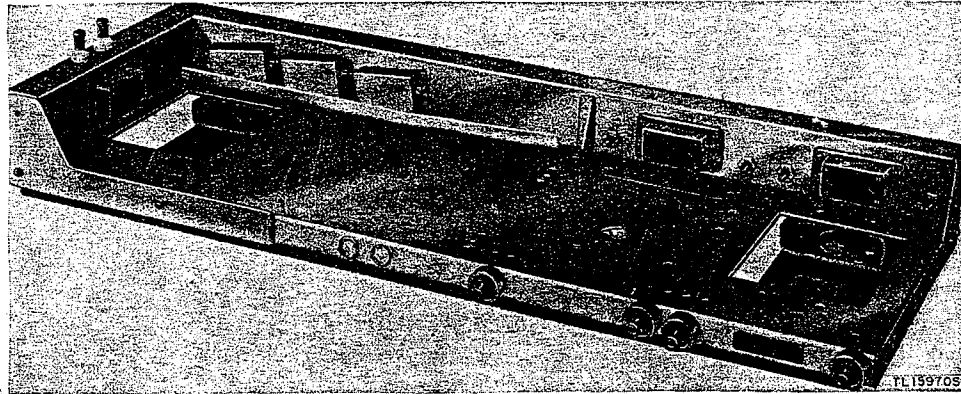
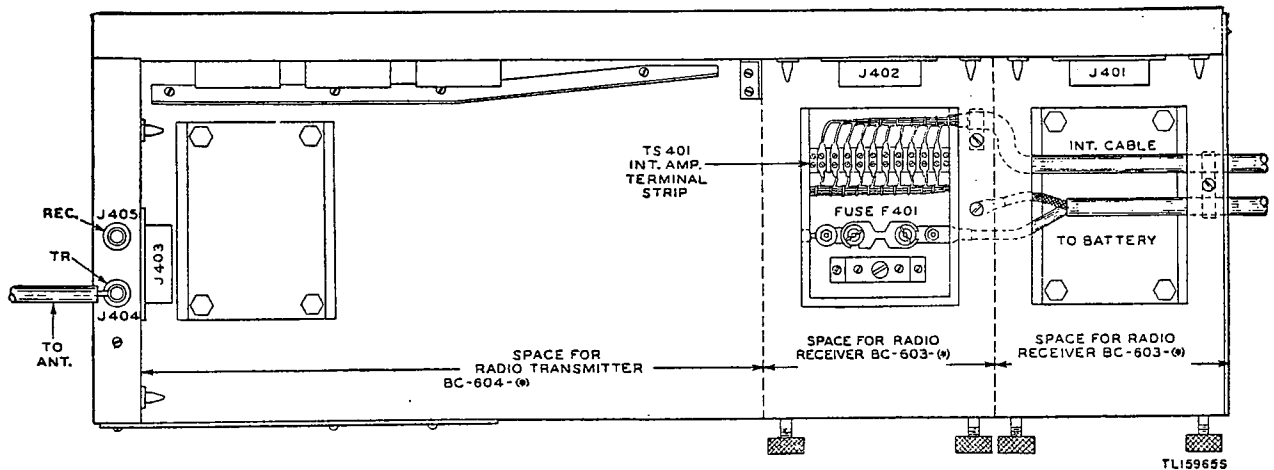

Figure 18. Mounting FT-237-(*).
Figure 19. Mounting FT-237-(*), location of transmitter and receivers.
a. GENERAL. This mounting, a photograph of which is shown in figure 18, will hold:
(1) Radio Set SCR-508-(*); one Radio Transmitter BC-604-(*) and two Radio Receivers BC-603-(*).
(2) Radio Set SCR-528-(*); one Radio Transmitter BC-604-(*) and one Radio Receiver BC-603-(*). The transmitter must be installed in its allotted place at the left end of the mounting (fig. 19), but the receiver may be installed in either of the two right-hand positions. Each unit is secured to the mounting by thumbscrew clamps and may be quickly removed without tools. The dust covers are provided for protection of the unused receptacles. The dust covers should be screwed to the rear of the mounting, as shown in the photograph, when removed from the receptacles to be used. A reversible nameplate bearing the words BATTERY VOLTAGE—12V on one side and BATTERY VOLTAGE—24V on the other side is screwed to the front of the mounting near the right-hand end. To make sure that the correct dynamotor will be installed in the equipment, turn this plate so that it reads 24 volts if a 24-volt battery is being used as a power source, or 12 volts if a 12-volt battery is being used.